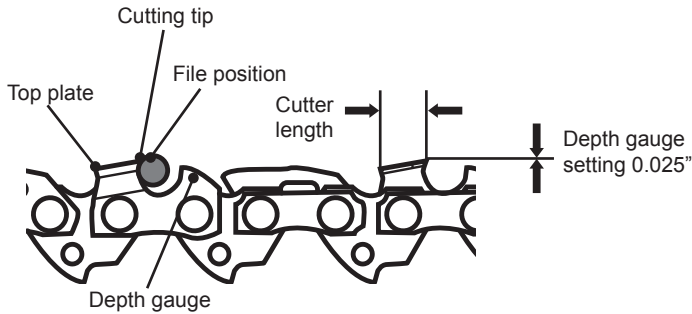

Fig. 47
9. Use a depth gauge measuring instrument to check the height of the depth gauge. Depth gauge measuring jigs are available from most reputable tool merchants (Fig. 47).